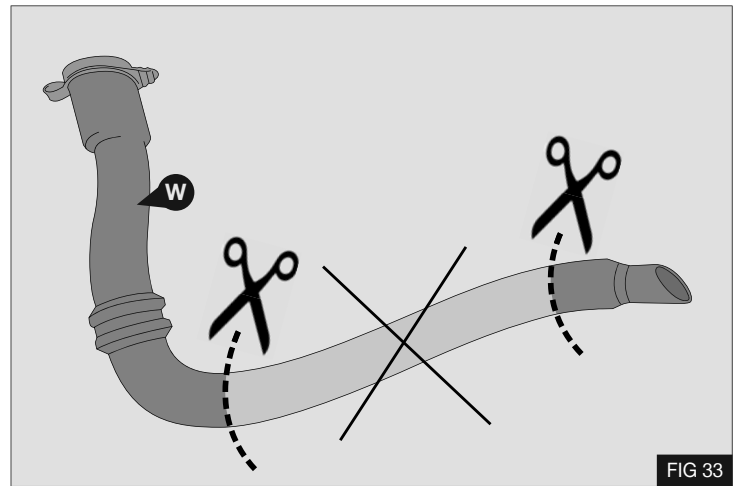

FIG 33
1. Remove and discard the section indicated from the washer bottle filler neck (W) - Fig 33